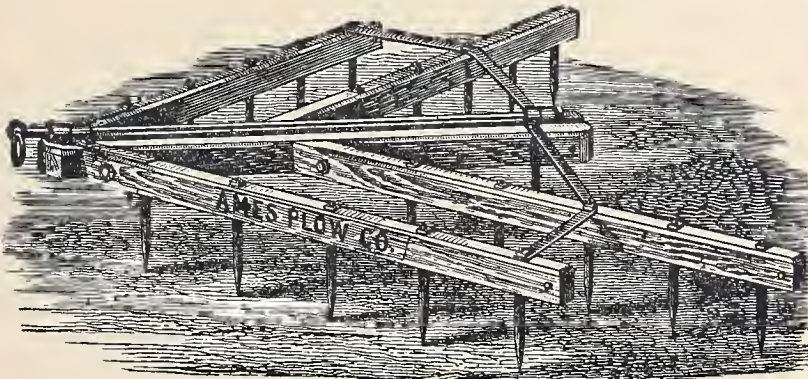

Fig. 326. — Geddes Harrow.
*The Geddes Harrow*, represented by Fig. 326, of which we make seven sizes, is also very generally used. It is made of two pieces of framework joined by hinges